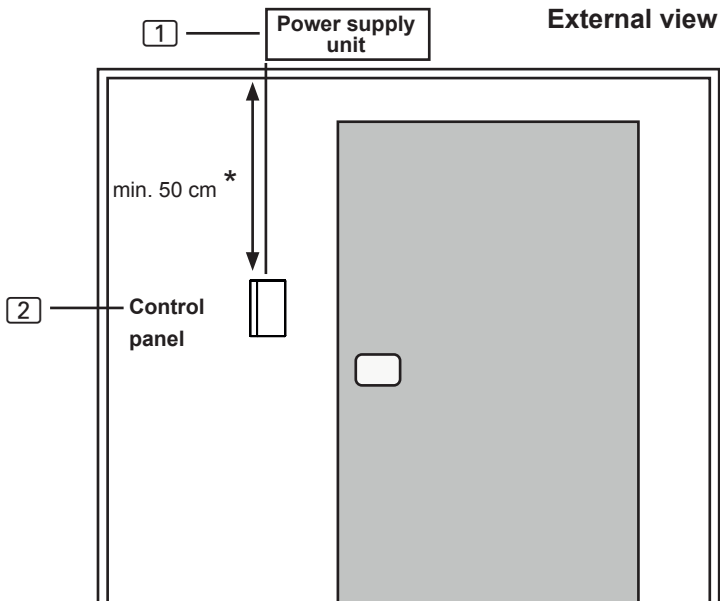

Fig. 4 Control panel position
The control panel [2] is installed on the cabin wall at a maximum distance of 10 metres from the power supply unit [1] (see Fig. 4).
* For installation inside a sauna cubicle, a minimum clearance of 50 cm from the cubicle roof must be maintained (see Fig. 4).